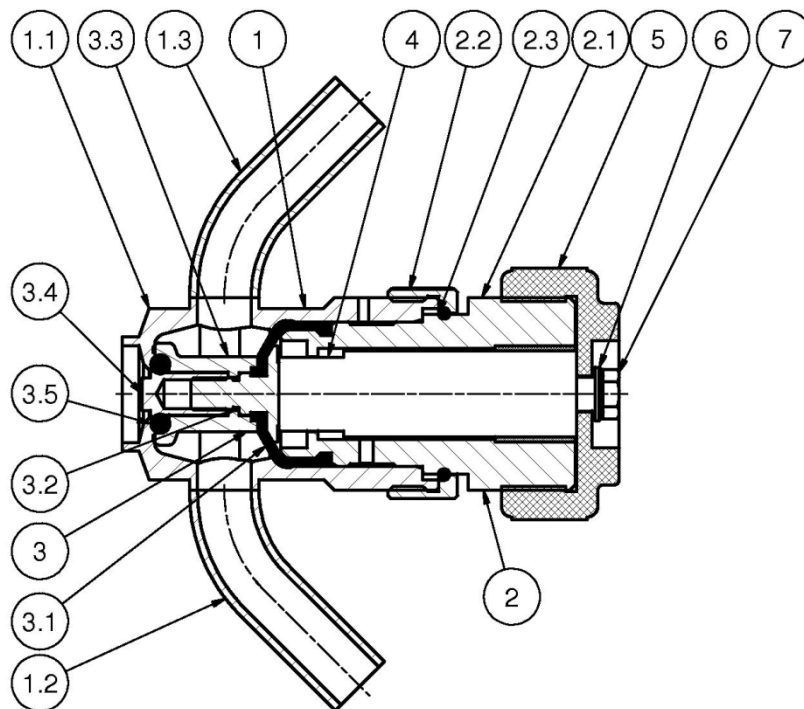
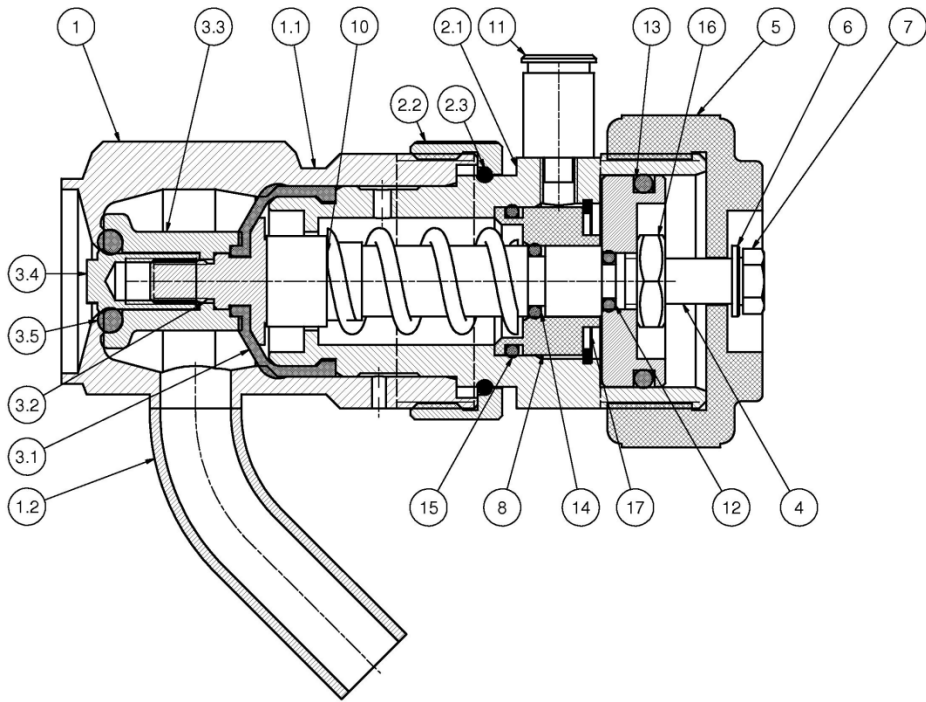
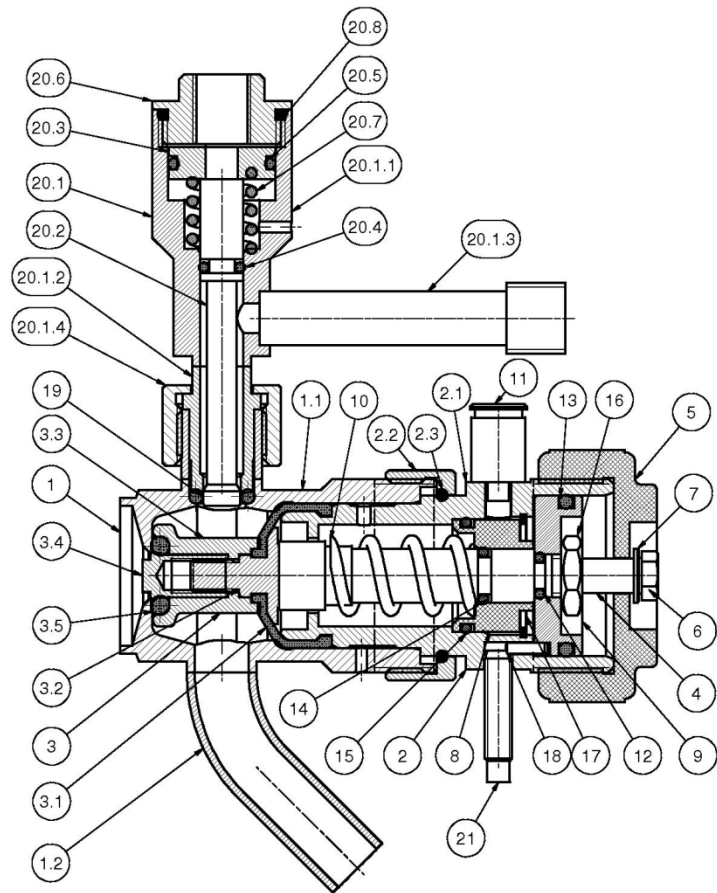

Figure 1 – Sectional view of PharmCom sampling valve manual with flush connection
Figure 2 – Sectional view of PharmCom sampling valve manual / pneumatic without flush connection
Figure 3 – Sectional view PharmCom sampling valve manual / pneumatic with flush valve and proximity switch
In the manual version (see figure 1) the valve is opened by actuating the handwheel (5) counter-clockwise and closed by turning it clockwise. In the pneumatic version (see figure 2), the valve opens by turning the handwheel (5) counter-clockwise and closes by turning the handwheel (5) clockwise until it runs freely. The valve then closes by spring force. An additional pneumatic connection (11) enables pneumatic triggering the valve for cleaning or for automatic sampling. The pneumatic valve can optionally be equipped with a proximity switch (21) for positional queries. In addition, the pneumatic variant of the sampling valve can be delivered with a pneumatically triggered flushing valve (20) for automatic cleaning. These options are illustrated in figure 3.